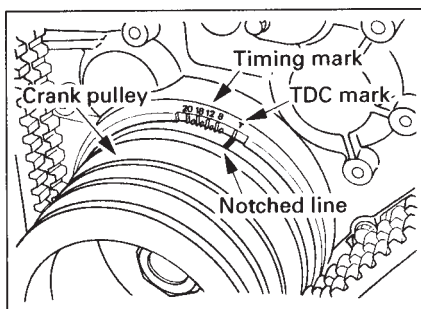

Figure 55. Valve Adjustment
3. After adjustment started from either piston top center, turn the crankshaft 360° to align the notched line with the TDC mark to do the adjustment again on the remaining valve. See Table 16 and Figure 55 for valve arrangement.